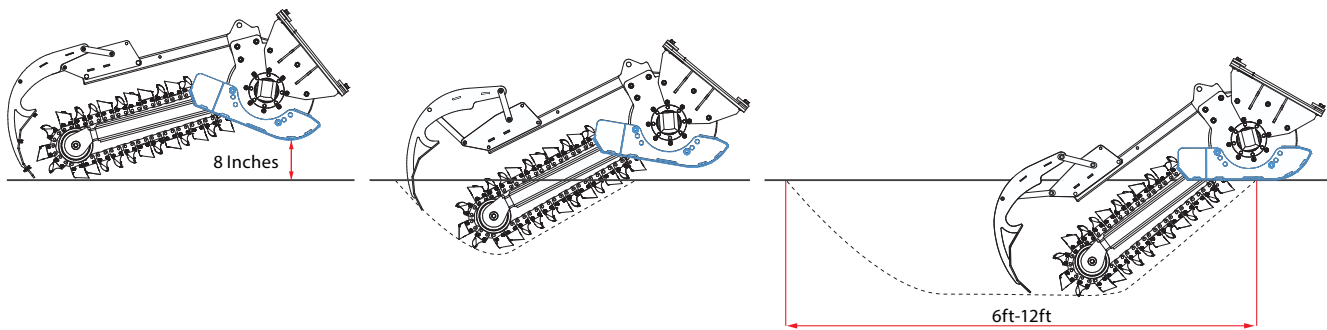

Figure 11
8. If your trencher has the headstart crumber bar, you can start trenching with the Trencher in the down position. Reverse the machine slowly from the start of the trench. Never attempt to reach desired depth without driving in reverse [Figure 11].